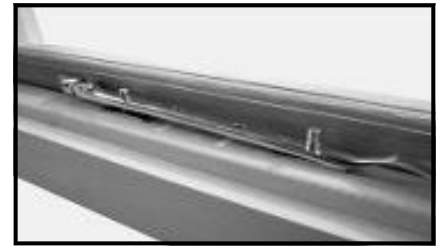

Fig A17
29. **Fitting the Casement Stays.** Place the casement stay evenly on the inside of the window (Fig A17) on top of the draught excluder.
11. Lay the assembled unit with the doors downwards onto your work surface (see Fig A17 window assembly).
12. Position the draught strips so the rubber is against the opening insert and fix with 3x25mm oval nails per strip (Fig A17 window assembly).